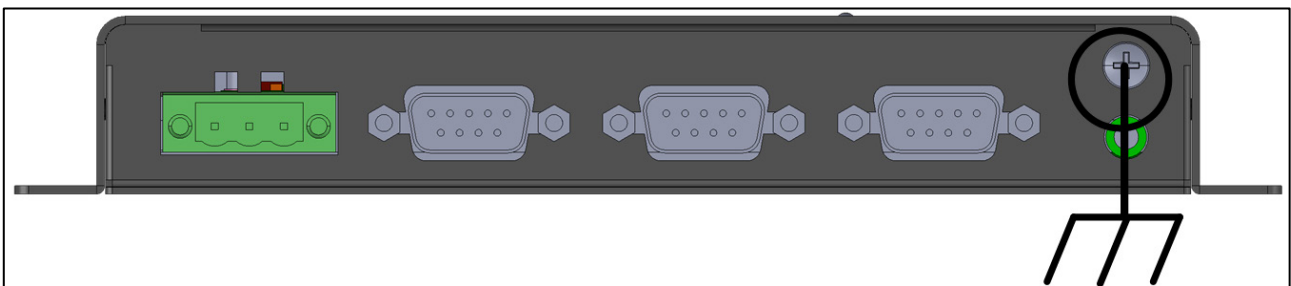

Figure 4: Grounding Schematic
*These wires come preconnected to the Comm-Box. In the event that they need to be reattached, place the white cable (#3) in the port as shown in Figure 4. Place both black cables into the ports as shown in Figure 4; either cable can be placed in either port.